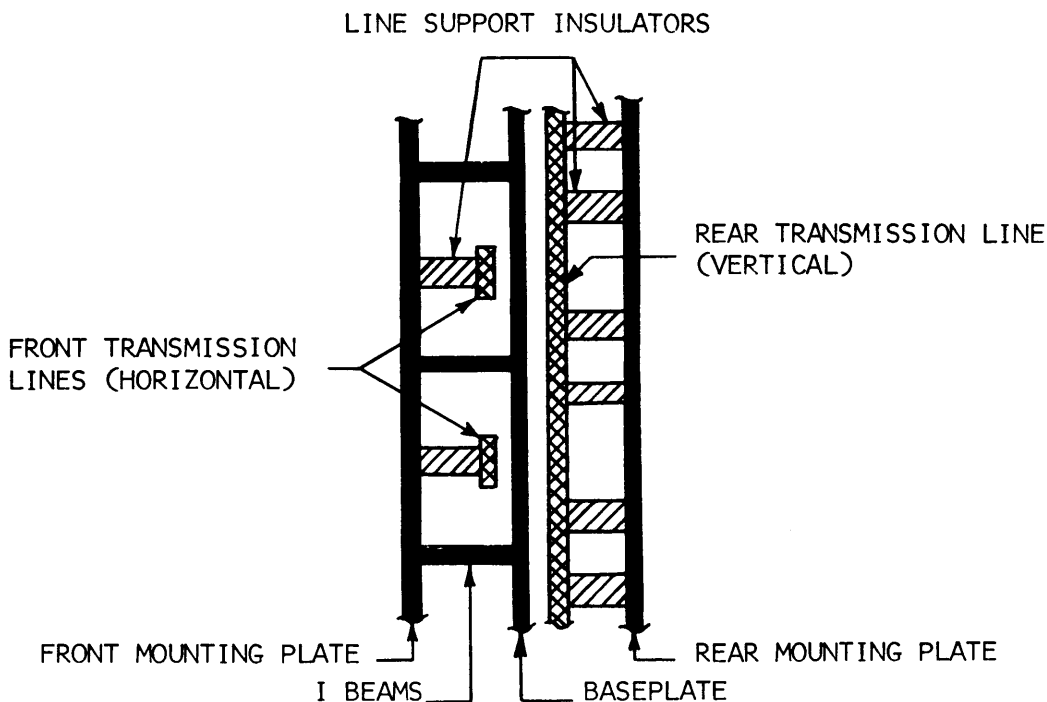

Figure 4-1. Basic Configuration
4.1.1 The design of the SLS starts with a heavy aluminum vertical base plate as shown in a section view in Figure 4-1. On the rear of this plate, vertical channels are fabricated from rugged "I" beams and the channels are covered on the rear with mounting plates. A heavy rectangular brass conductor is suspended in this vertical channel by insulators which attach to the mounting plates; this forms a coaxial conductor assembly. The center conductor is mounted much closer to the base plate than to any of the other walls of the channel and actually operates as a "strip-line" rather than a concentric coaxial transmission line. The spacing between the center conductor and the base plate is such that the transmission line has a 50-ohm characteristic impedance.
4.1.2 Identical channels are fabricated running horizontally on the front of the base plate and identical transmission lines are constructed within these channels. Figure 4-1 shows a cross section view of this assembly. Notice that each of the horizontal transmission lines on the front of the unit crosses over each of the vertical transmission lines on the rear of the unit even though the lines are separated by the base plate at these crossing points. For convenience, we will refer to the rear vertical transmission lines as "columns" and the front horizontal transmission lines as "rows".